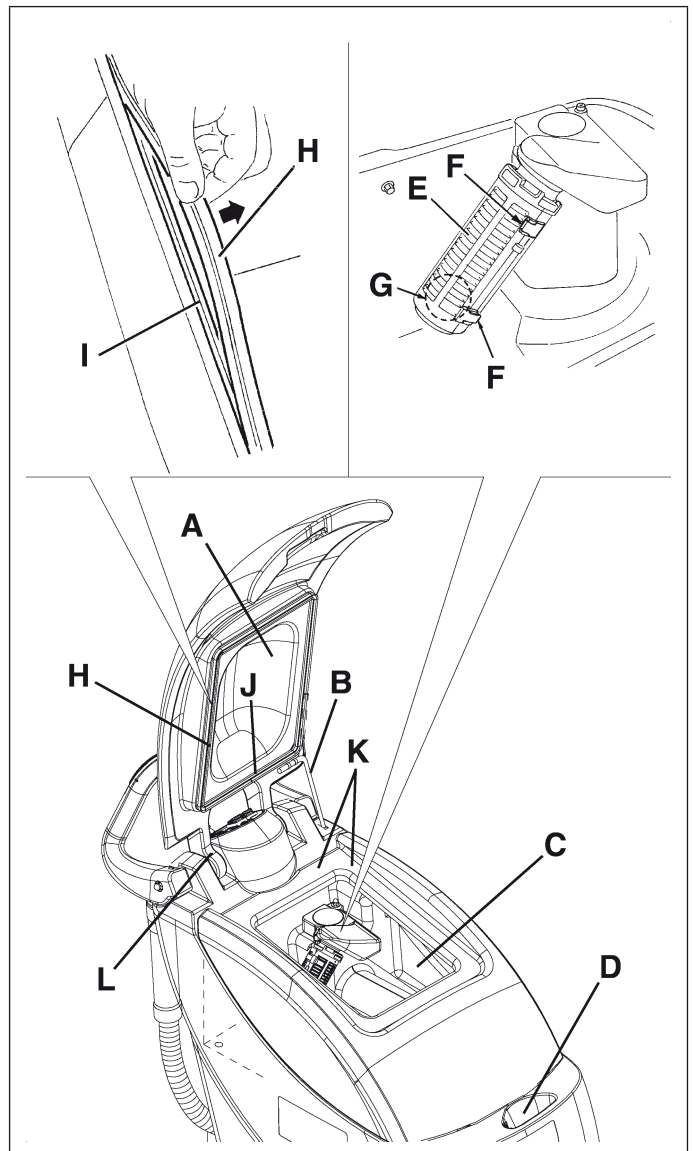

Figure 19
3. Lift the cover (A, Fig. 19) and apply the cover stand (B), then clean and wash the cover, the tanks (C and D) and the vacuum grid (E) with clean water.
4. If necessary, release the retainers (F, Fig. 19), open the vacuum grid (E), remove the float (G), then carefully clean and reinstall them.
5. Check the cover sealing gasket (H, Fig. 19) of the recovery tank for wear.
*The gasket (H, Fig. 19) creates vacuum in the tank, which is necessary for the vacuuming of the recovery water.*
If necessary, replace the gasket (H, Fig. 19) after removing it from the housing (I).
When reassembling the new gasket, install the joint (J) in the central area, as shown in Fig. 19.
6. Check the gasket (H, Fig. 19) seating surface (K) for integrity and sealing capabilities.
7. Check the vent hole (L, Fig. 19). If clogged, clean it.
*The hole (L, Fig. 19) compensates the air in the cover interspaces, thus allowing the creation of vacuum in the recovery tank.*
8. Remove the cover stand (B, Fig. 19) and close the cover (A).